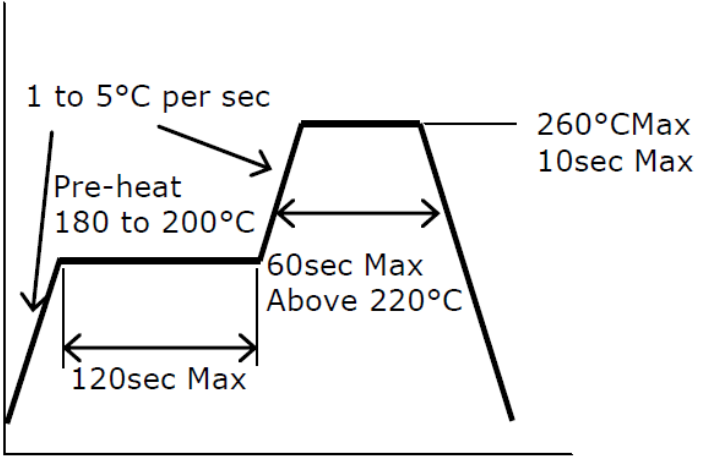

Figure 10. Recommended Reflow Soldering Condition (Lead-free Solder)
2. Using the recommended reflow soldering conditions (See Figure 10 to the left) as a reference, modify if necessary, the recommended reflow conditions specified by the manufacturer of the solder paste being used.